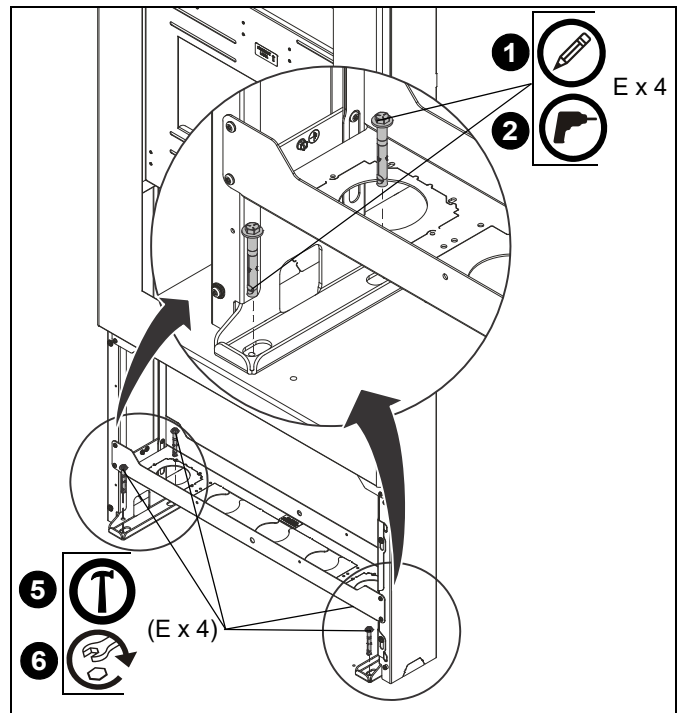
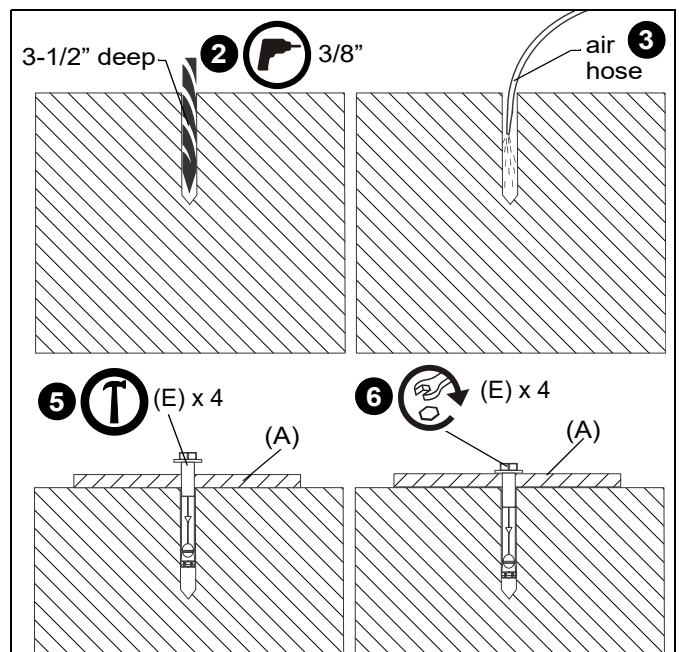

Figure 4
Figure 5
- Using kiosk (A) as a template, mark center of four mounting holes (the holes where kiosk was attached to pallet) and move kiosk to allow access to drill holes. (See Figure 4)
- Using a 3/8" drill bit, drill a hole 3-1/2" in depth at each marked location. (See Figure 4) and (See Figure 5)
- Blow each hole clean of any concrete debris with an air hose or compressed air in a can. (See Figure 5)
- Use a hammer to drive anchors (E) through kiosk mounting holes into the drilled holes until the bolt head is firmly seated against the kiosk. (See Figure 4) and (See Figure 5)
- Tighten each anchor by turning the head three to four turns past finger tight. (See Figure 5)